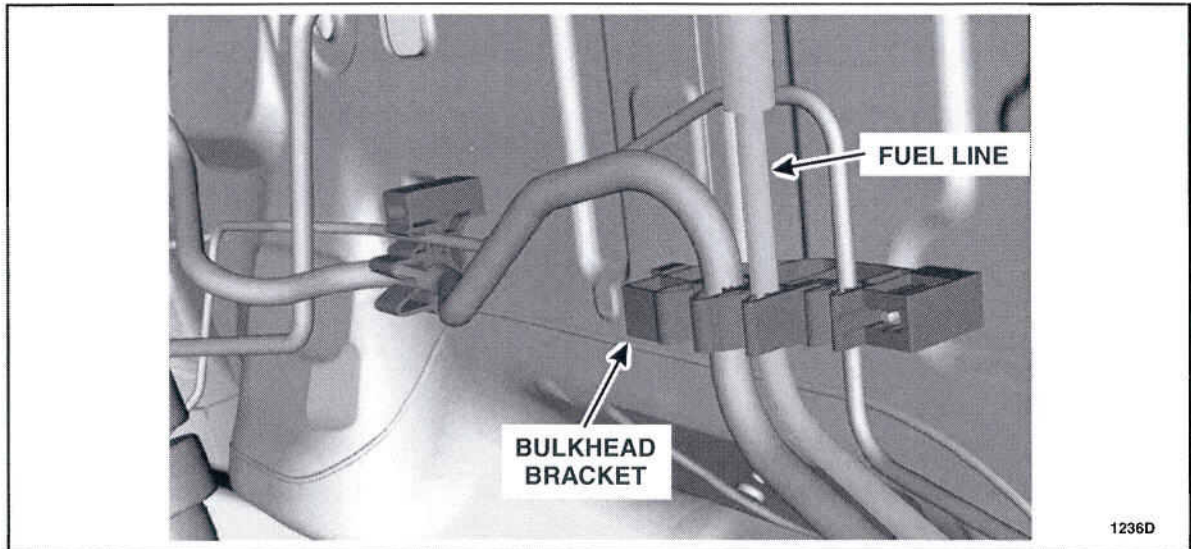

FIGURE 2
7. Unclip the fuel line from the bulkhead bracket (located on the lower left center of the bulkhead). See Figure 2.